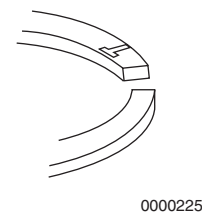

Figure 6-72
- Install each piston ring on the piston with the punched manufacturer's mark (**Figure 6-72, (1)**) facing upward.